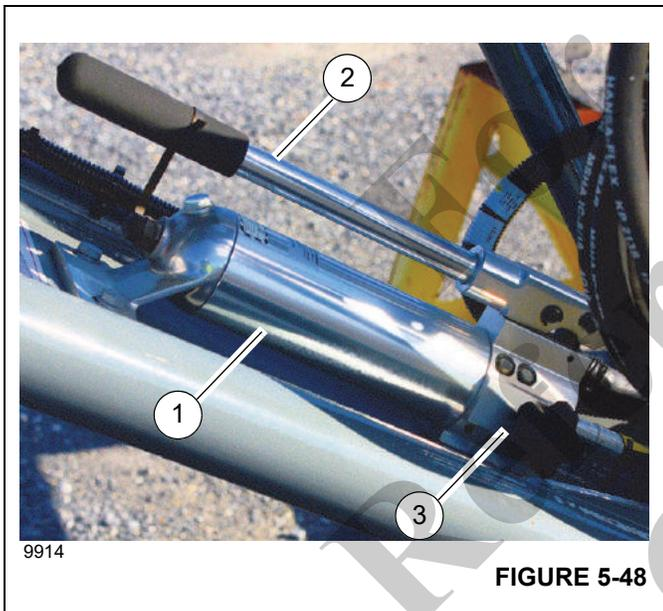

FIGURE 5-48
18. Install four pins (5, Figure 5-41) and retaining clips (6) to secure the boom extension to the boom nose. If necessary, remove the upper (7) and lower (8) hoist rope rods and retaining clips (9) to install the pins (5). Use the jack (1, Figure 5-48) as necessary to install the fourth pin as necessary as follows: